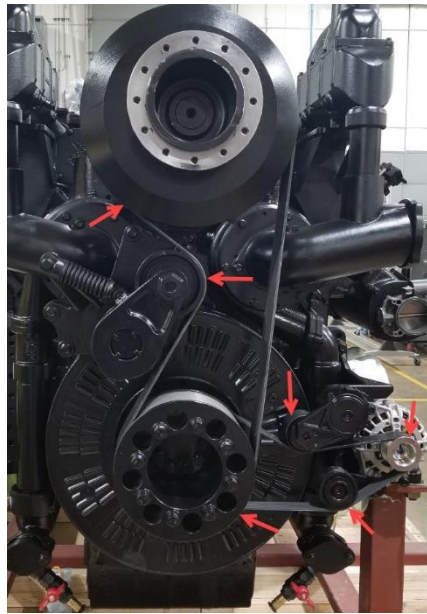

Figure 30
- b) properly aligned and engaging all grooves as shown in Figure 30.